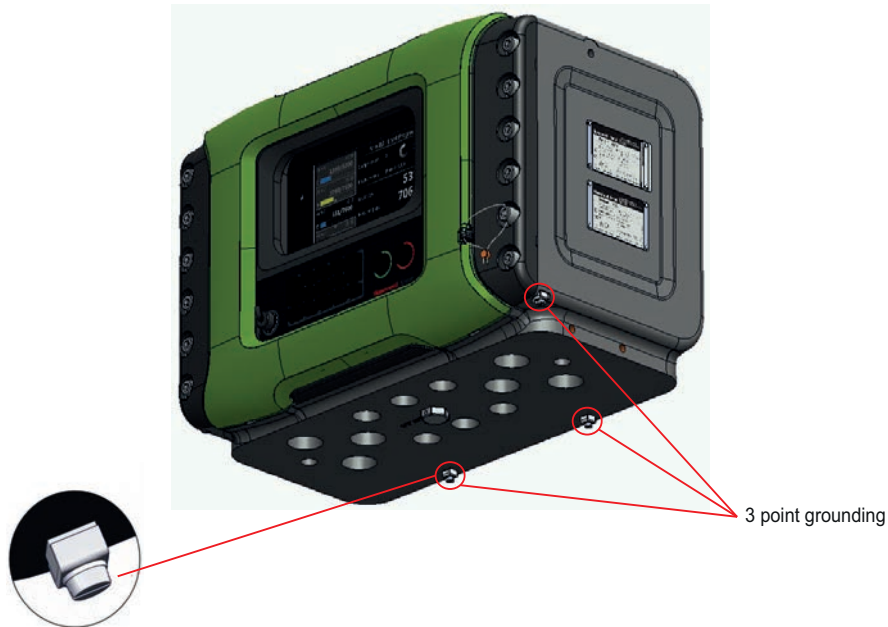
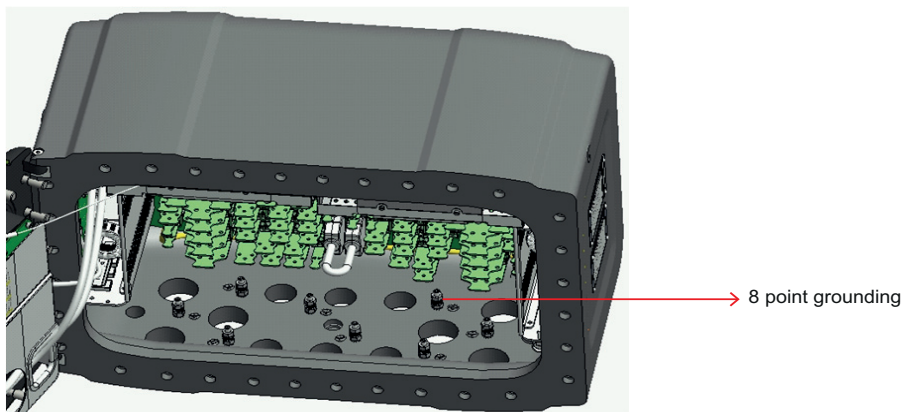

FIGURE 2-1 External grounding connections of the MSC-L
FIGURE 2-2 Internal grounding connections of the MSC-L
WARNING! *Make sure that the housing of the MSC-L is properly bounded to the Protective Earth (PE). See FIGURE 2-1 for external grounding of the MSC-L and FIGURE 2-2 for bonding any AC mains wire.*